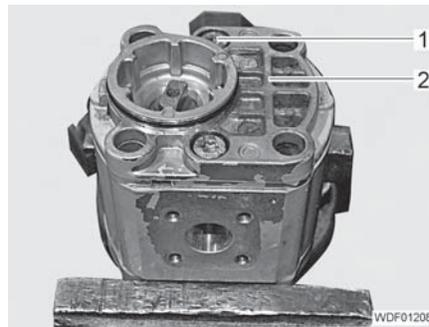

Fig. 155 Flange attachment
- Unscrew the 2 screws (Fig. 155,1).
- Carefully rotate the pump 180° and carefully tighten the flange (Fig. 155,2).
- Screw in and tighten the 2 screws (Fig. 155,1).